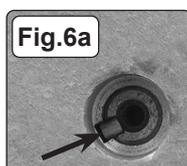

Fig.6a
- 7.5.2. Remove the socket headed screw and washer, followed by the bolt cup to reveal the Woodruff Key (fig.6a).